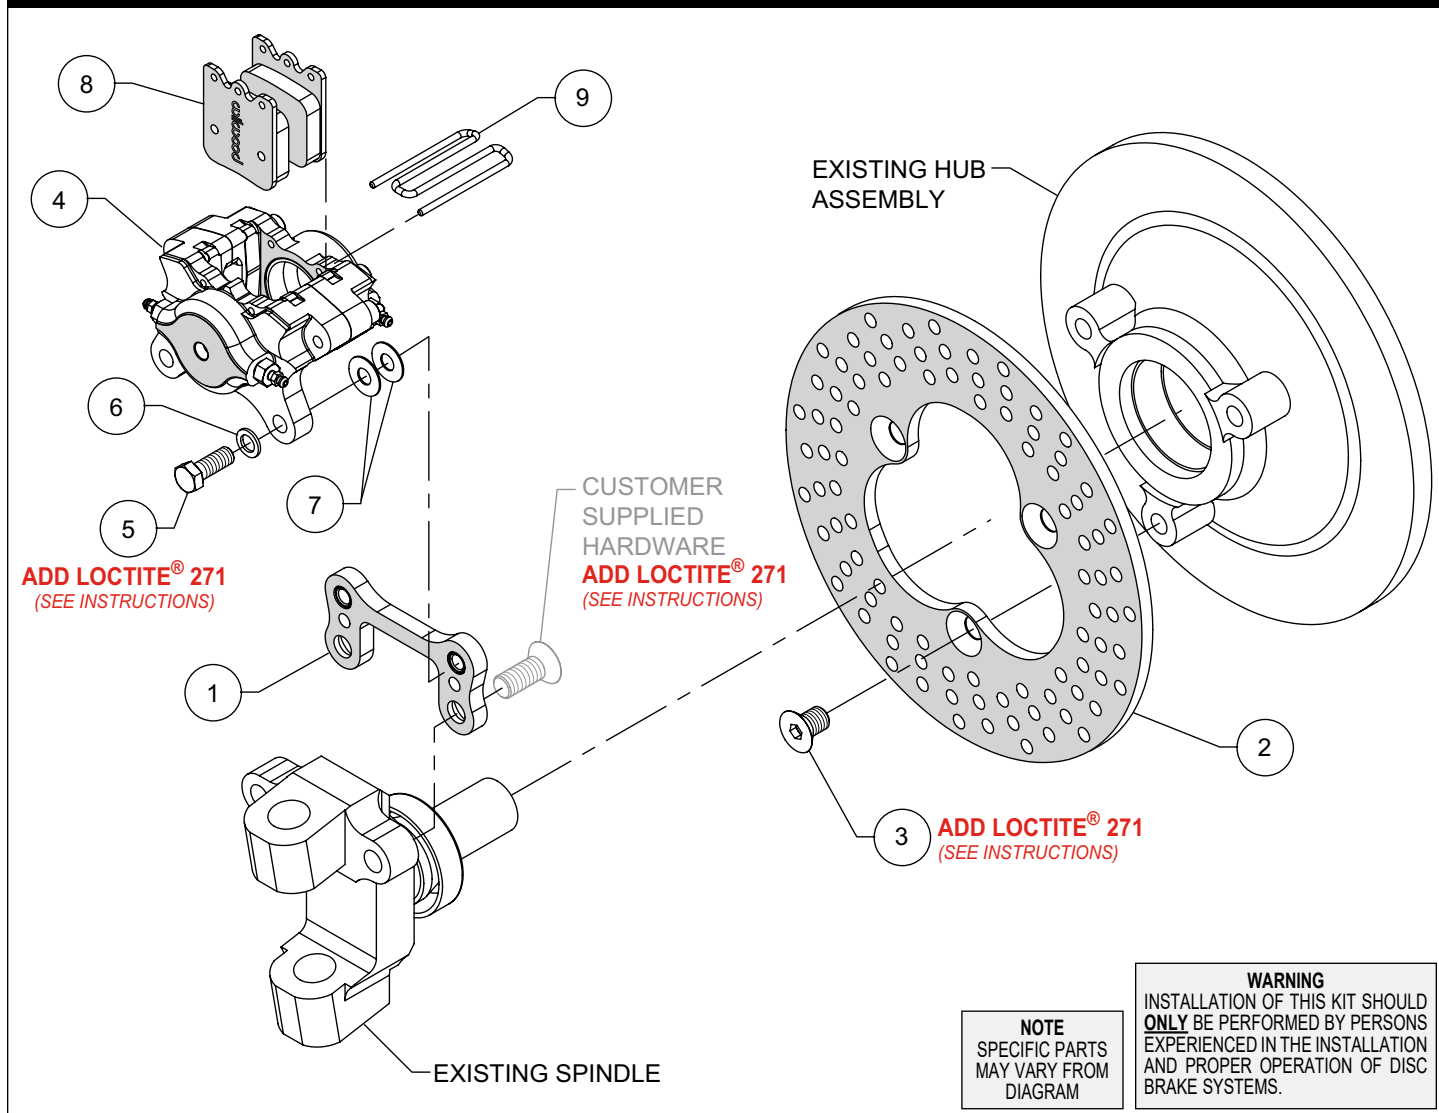

Figure 1. Typical Installation Configuration
NOTE: Numbers in parenthesis refer to the parts list and Figure 1 on the preceding pages.
- Orient the caliper mount bracket (1) as shown in Figure 1, and install using customer supplied hardware. Ensure that the flanged heads of the clinch nuts in the bracket are facing outboard. Temporarily tighten the mounting bolts. **NOTE:** The bracket must fit squarely against the mount bosses on the spindle. Inspect for interference from machining ridges, burrs, etc. Remove bolts one at a time, apply red Loctite® 271 to the threads and torque to specification.
- Mount the rotor (2) to the existing hub assembly using bolts (3) as shown in Figure 1. Apply red Loctite® 271 to the bolt threads and torque bolts to 80 ft-lb.
- NOTE:** Please reference the caution statement at the beginning of the assembly instructions. Orient the caliper (4), as shown in Figure 1, and install using bolts (5) and washers (6), Figure 1. Initially place two .035" thick shims (7) on each bolt between the caliper and bracket as shown in Figure 1. Temporarily tighten the bolts and view the rotor through the top opening of the caliper. The rotor should be centered in the caliper. If not, adjust by adding or subtracting shims (7) between the bracket and the caliper. Always use the same amount of shims on each of the two mounting bolts. **NOTE:** The end of each bolt must be flush with or slightly protruding from the head of the clinch nut.